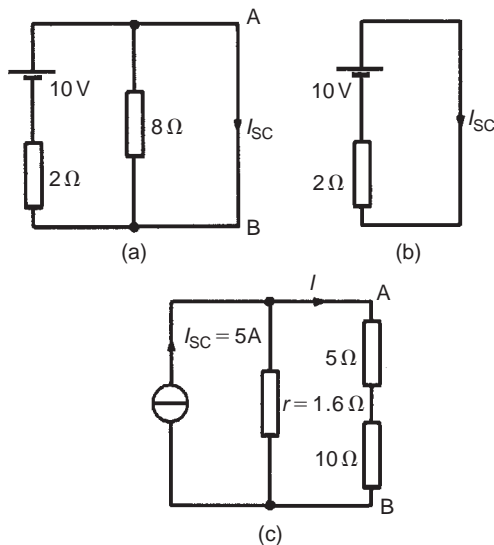

Figure 15.55
- (i) The branch containing the 10Ω resistance is short-circuited as shown in Fig. 15.55(a)
- (ii) Fig. 15.55(b) is equivalent to Fig. 15.55(a).
- (iii) If the 10V source of e.m.f. is removed from Fig. 15.55(a) the resistance 'looking-in' at a break made between A and B is given by:
- (iv) From the Norton equivalent network shown in Fig. 15.55(c) the current in the 10Ω resistance, by current division, is given by: